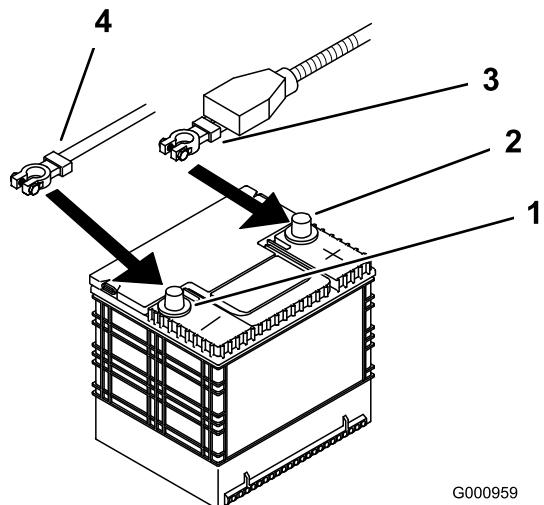

Figure 46
- First disconnect the negative battery cable from the negative (-) battery terminal (Figure 46).
- Slide the red terminal boot off the positive (red) battery terminal. Then remove the positive (red) battery cable (Figure 46).
1. Position battery in the tray with the terminal posts opposite from the hydraulic tank (Figure 46).
4. Secure the cables with 2 bolts (1/4 x 3/4 inch), 2 washers (1/4 inch), and 2 locknuts (1/4 inch) (Figure 46).